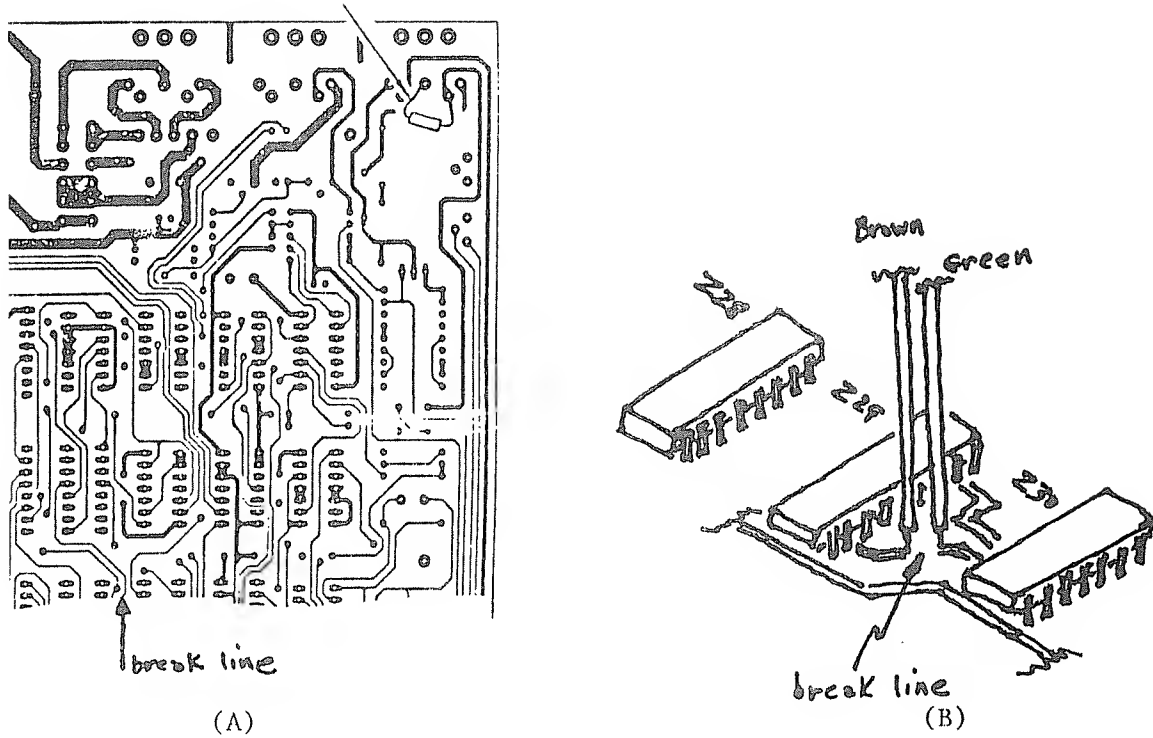

Figure 1- It is necessary to cut the circuit board in two places as shown here (circuit board drawing courtesy of Radio Shack)
16. Refer to the sketch in Figure 1. Locate the area shown between z29 and z30 and cut the trace with an Xacto knife at the point shown. This point can be bridged with a short piece of bare Kynar wire if it is necessary to remove the conversion.
17. On the reverse side of the board, locate the circuit trace that goes from pin 13 of z30 to pin 4 of z60 (see Figure 1). Make a small cut in this trace that can be bridged later, if the conversion is removed.